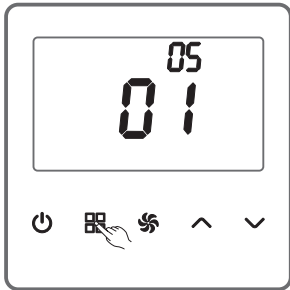

Figure 11
As shown in the Figure 11 on the parameter setting page, pressing  (MODE) activates a switch to the option number 05.  (UP) or  (DOWN) is provided to allow a switch of "00", "01" and "03", adjusting the fan operation.